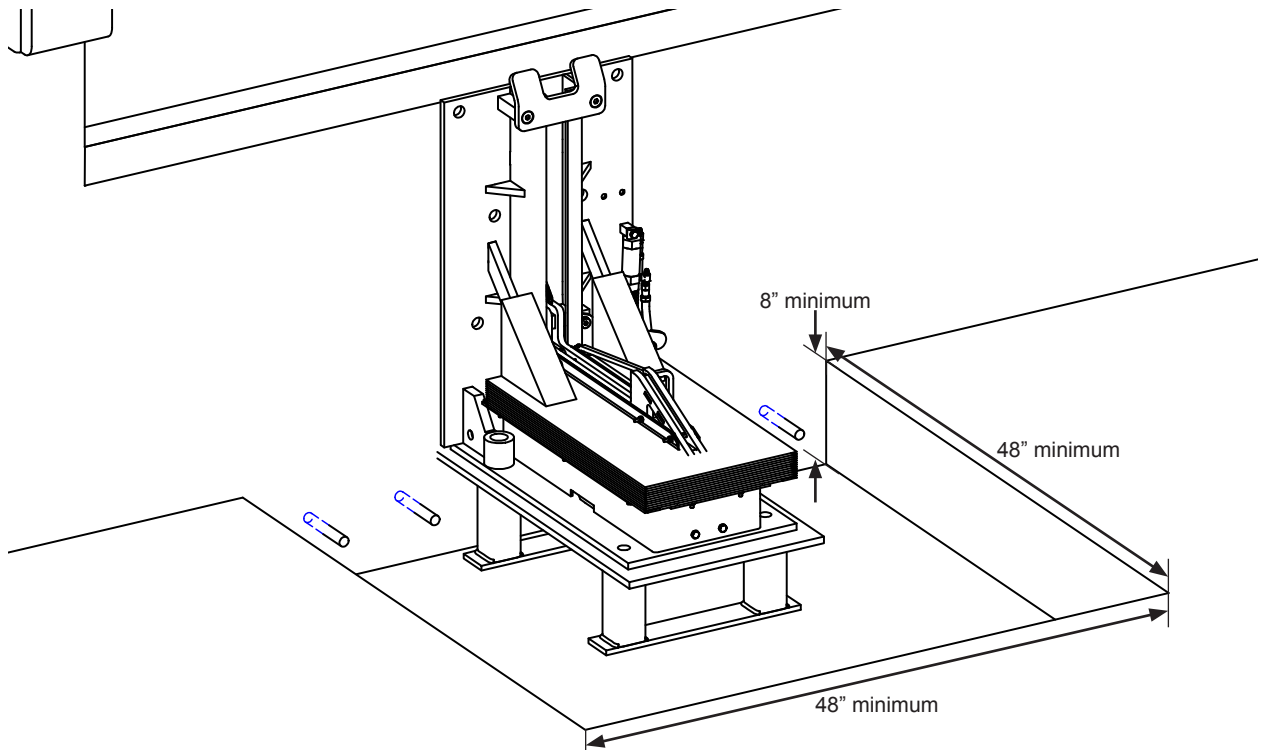

Figure 13
**Note:** Driveway mount requires attachment to a concrete drive greater than 8" thick. For asphalt drives, pour a 48" x 48" x 8" min. concrete pad and include six (6) 3/4" dowels into foundation wall as shown in Figure 13. Then proceed with adhesive anchors or weld plate embed.